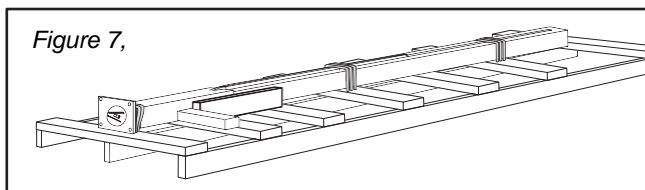

Figure 7,
1. Disassemble the crate until the column unit looks like the illustration below (Figure 7).